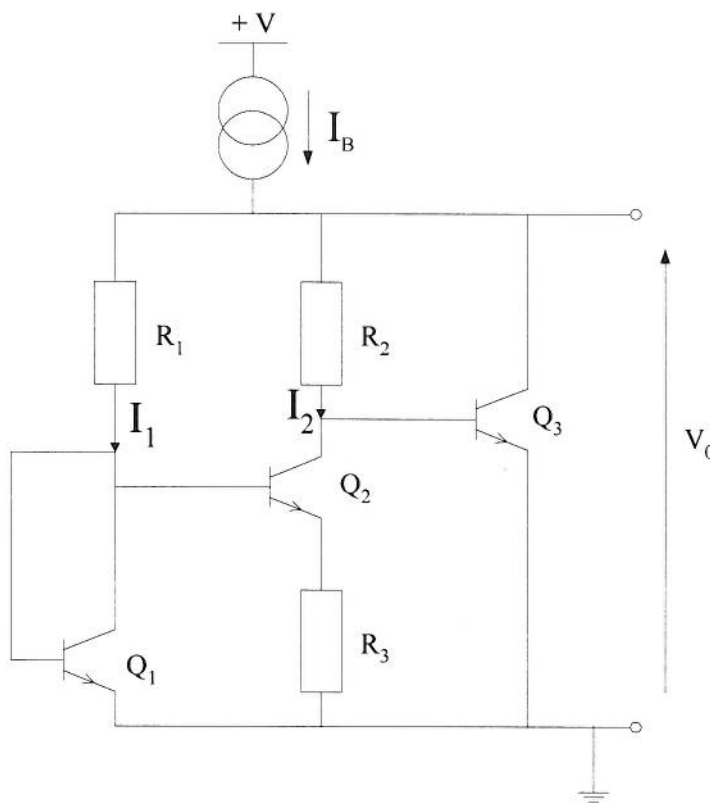

Figure 1.1
1. (a) Figures 1.1 and 1.2 show two popular biasing schemes typically used in analogue integrated systems. Briefly outline the main feature of each of these circuits.
For the bandgap voltage reference circuit of Figure 1.1, show that $\delta V_0 / \delta T = 0$ (where T is temperature) if $(R_2/R_3) \ln [I_1/I_2] = 29$ for $V_0 = 1.283$ V. Assume the temperature coefficient of V_{BE} to be $-2.5\text{mV}/^\circ\text{C}$, the collector current of transistor Q_3 is $100\mu\text{A}$ and the device saturation current is $I_S = 1.2 \times 10^{-13}$ A. Boltzmann's constant $k = 1.38 \times 10^{-23}$ J/K and the electron charge is $q = 1.6 \times 10^{-19}$ C.